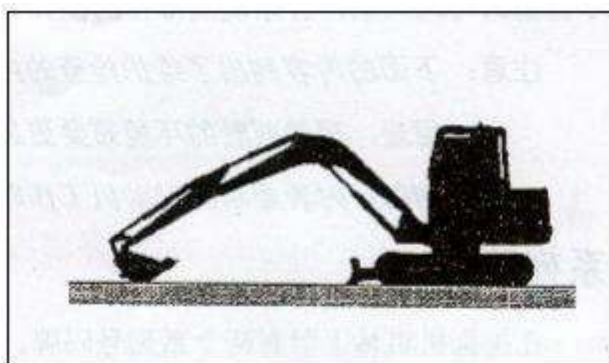

Fig 4-3
1. Place the machine on a level and solid ground, extend the forearm and lower the bucket to the ground as shown in Figure 4-3.